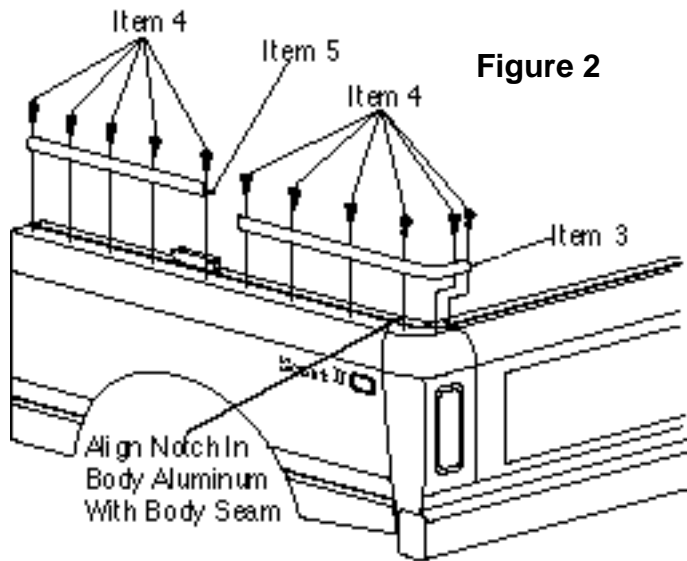

Figure 2
Step 2. Body Aluminum. Locate rear body aluminum (Item 3) just outside slight drop in body edge with the notch in body aluminum aligned with body seam. Slight bending may be required to match body contours. Using body aluminum as a template, mark and drill 1/8" holes. Secure to body with #10 x 1/2" sheet metal screw (Item 4). Butt front body aluminum (Item 5) up to rear body aluminum and secure to body using same procedure as above. Repeat for the other side. See figure 2.